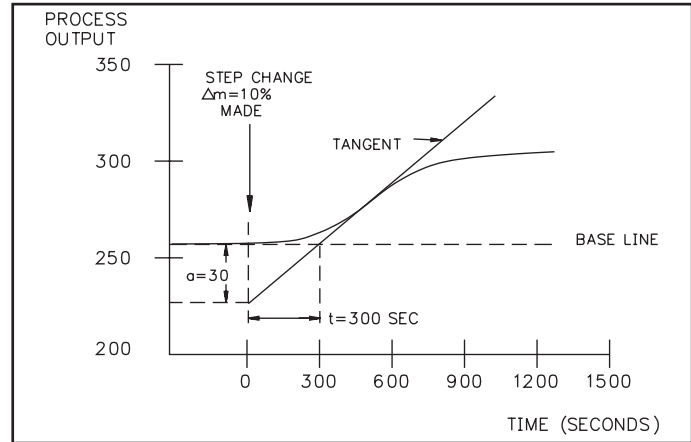

Figure 41, Process Reaction Curve
- 5) Record the response of the process. Use the information from the table to calculate the controller tuning values. The PID tuning parameters are determined graphically from Figure 41, Process Reaction Curve. Draw a vertical line at the moment the step change was made. Draw a line (labeled tangent) through the process reaction curve at its maximum upward slope. Extend this line to intersect the vertical line.